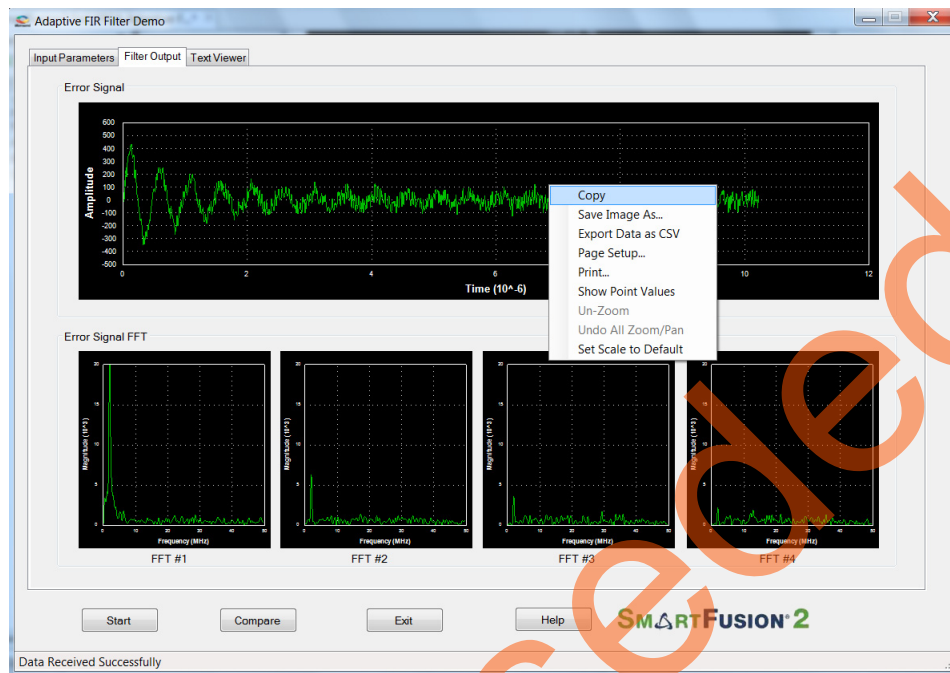

Figure 27 • Error Signal - GUI Options
14. It shows the different options as shown in Figure 27. The data can be copied, saved, and exported to CSV plot for analysis purpose. Page setup, print, show point values, Zoom, and set scale to default.